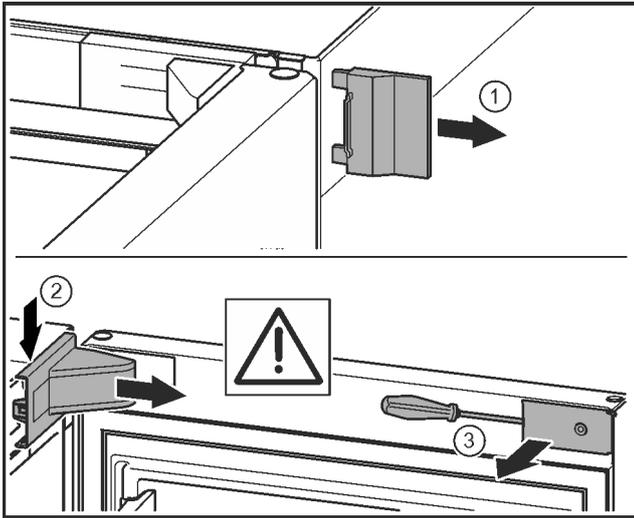

Fig. 21 \*
- ▶ Remove the outer cover. Fig. 21 (1) \*
- ▶ Disengage and release the bearing bracket cover. Remove the bearing bracket cover. Fig. 21 (2) \*
- ▶ Unlatch the panel with a slotted screwdriver and swivel it to one side. Fig. 21 (3) \*